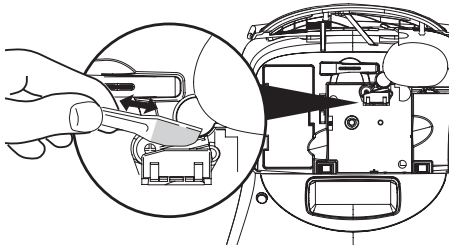

Figure 11
- ◆ Clean the print head using the cleaning tool located inside the label cassette compartment lid. See Figure 11.